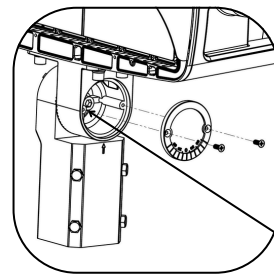

Fig. 6
4. To make vertical angle adjustments, remove the angle cover by removing two screws, refer to Fig. 6.